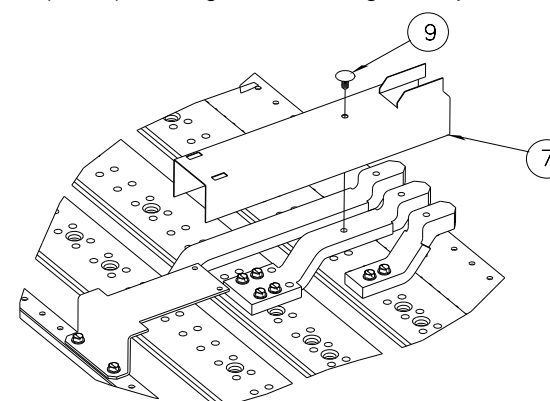

Figure 5
7. Reference fig. 5 - Installing the barrier. Insert the christmas tree rivet (item 9) through the 0.25" diameter hole in the barrier and then through the medium phase connector (item 4) orienting as shown in fig. 5 and push for a tight fit.